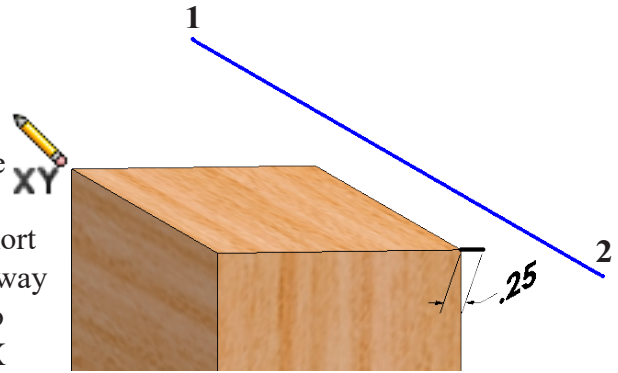

Fig. 5
Step 12. Click **Line**  (L) on the Sketch toolbar.
Step 14. Sketch a line from **left to right** away from short line, **Fig. 5**. To sketch line on X axis, click away from short line at approximately Position 1 to start line. Move cursor across sketch along X